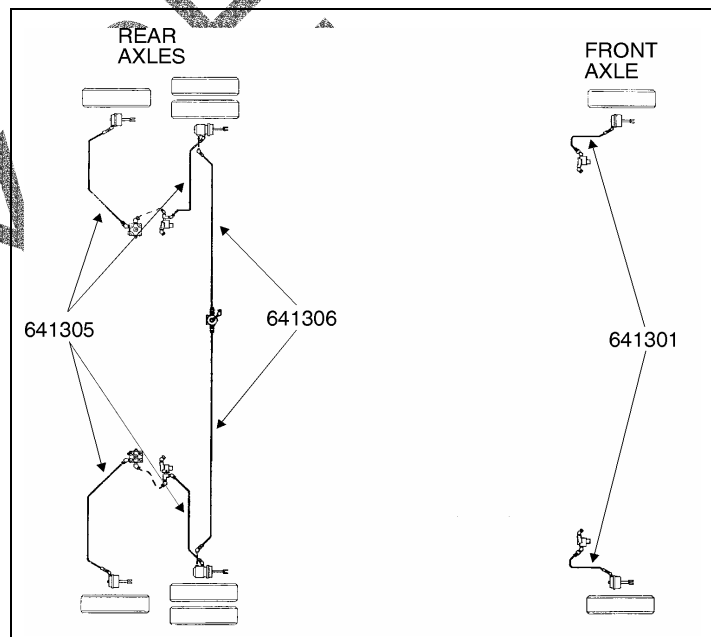

FIGURE 3
B. The hoses that must be changed are identified on figure 3 (part numbers of the hoses that should be used are identified on the figure). Each one should be replaced as described in procedure in step A.